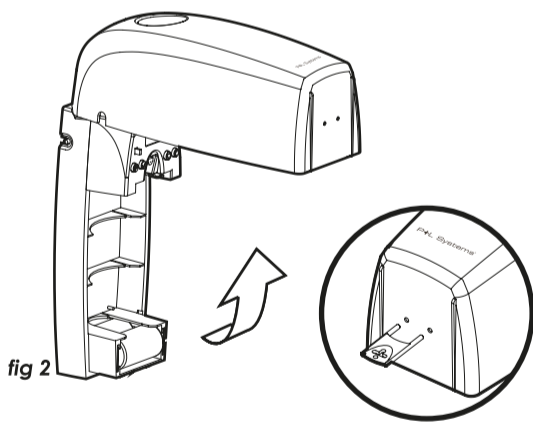

fig 2
- Open the dispenser using the supplied key. (fig 2)
- Press the ON/OFF button (7) to turn the dispenser on.